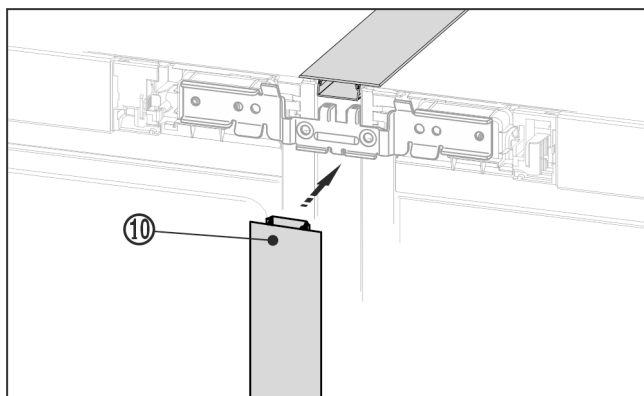

Fig. 23
- ▶ On the front press the long cover strip Fig. 23 (10) into the vertical gap. Ensure that the strip rests on the connecting plate.